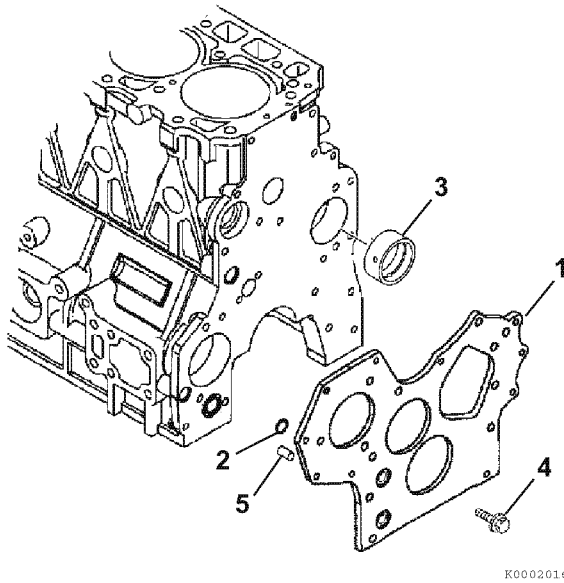

Figure 6-99
6. TNV84 - TNV88: Remove the O-ring (2, Figure 6-99) and dowels (5, Figure 6-99).